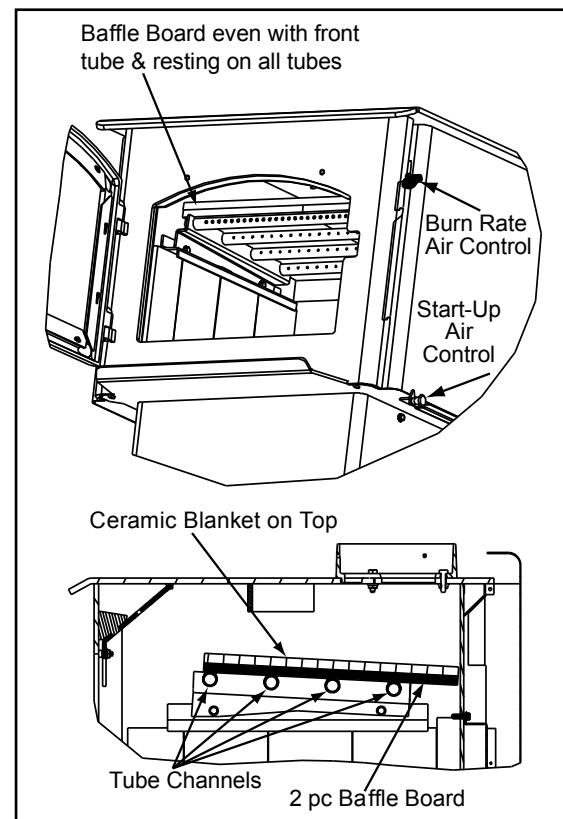

Figure 28.1
1. Confirm the baffle is correctly positioned. It should be even with the front tube and resting on all tubes. **Figure 28.1.**